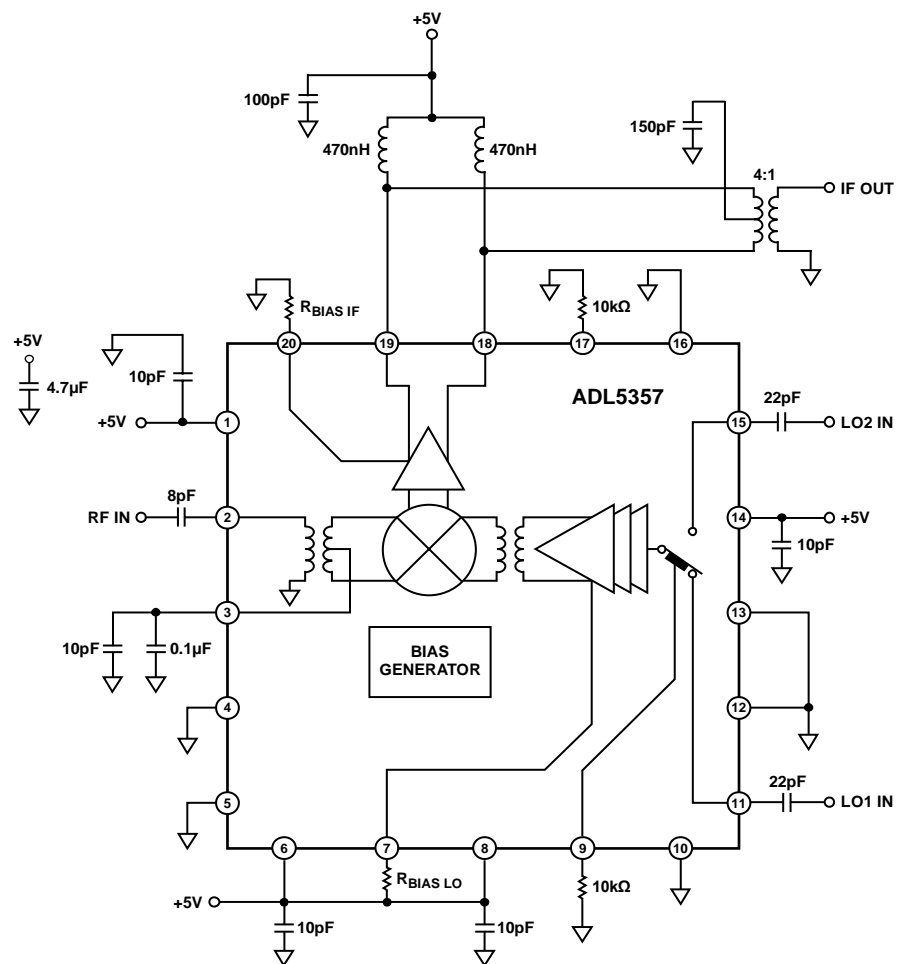

Figure 51. Typical Application Circuit
The ADL5357 mixer is designed to downconvert radio frequencies (RF) primarily between 500 MHz and 1700 MHz to lower intermediate frequencies (IF) between 30 MHz and 450 MHz. Figure 51 depicts the basic connections of the mixer. It is recommended to ac couple RF and LO input ports to prevent non-zero dc voltages from damaging the RF balun or LO input circuit. The RFIN capacitor value of 8 pF is recommended to provide the optimized RF input return loss for the desired frequency band.
The real part of the output impedance is approximately 200 Ω , as seen in Figure 30, which matches many commonly used SAW filters without the need for a transformer. This results in a voltage conversion gain that is approximately 6 dB higher than the power conversion gain, as shown in Table 3. When a 50 Ω output impedance is needed, use a 4:1 impedance transformer, as shown in Figure 51.